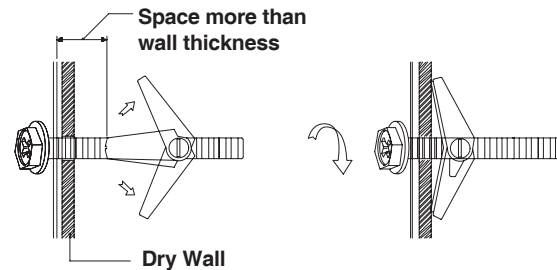

Figure 20
2. Position mounting plate on wall and insert toggle bolt assemblies through the drywall holes or start the lag-screw(s) through the wall stud(s). See Figure 20.